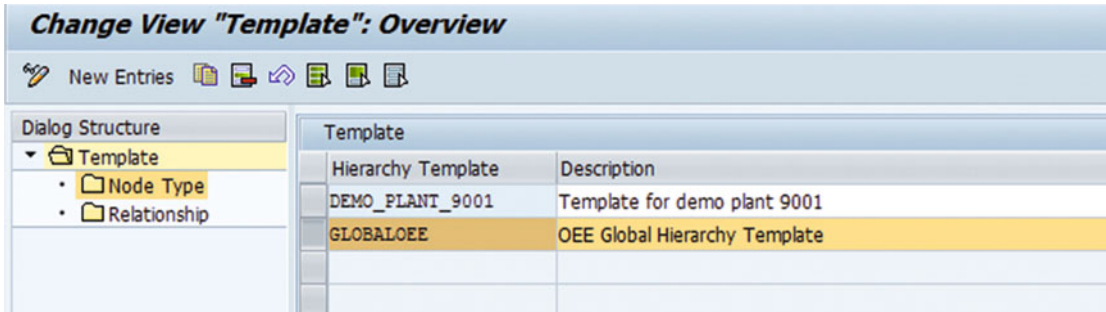

Figure 3-21. Configure global hierarchy template: node type
2. Select the created template and then select Node Type on the left-hand pane as shown in Figure 3-21. Node-type configuration defines the different nodes required for a global hierarchy. The four nodes are enterprise, region, country, and plant, with the lowest node being plant. The other three nodes are flexible and can be defined as per the enterprise requirements. For example, the hierarchy nodes can be defined as region, country, site, and plant.
3. To define the node type, select New Entries and follow the steps in the following section for each node type (refer to Figure 3-21).